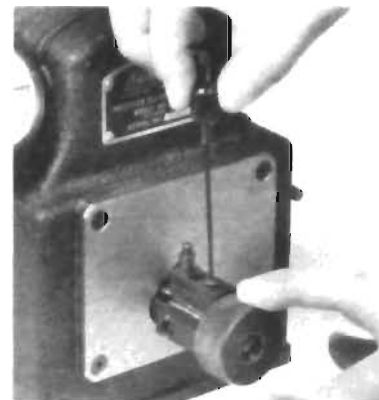

Fig. 21
5. Insert hex wrench in socket of centralizer adjusting screw (Fig. 21) (cap screw nearest calibrator ring). While applying a very light downward finger pressure to top of calibrator ring, adjust centralizer point up or down by turning hex wrench to right or to left to obtain maximum clockwise position of indicator hand.